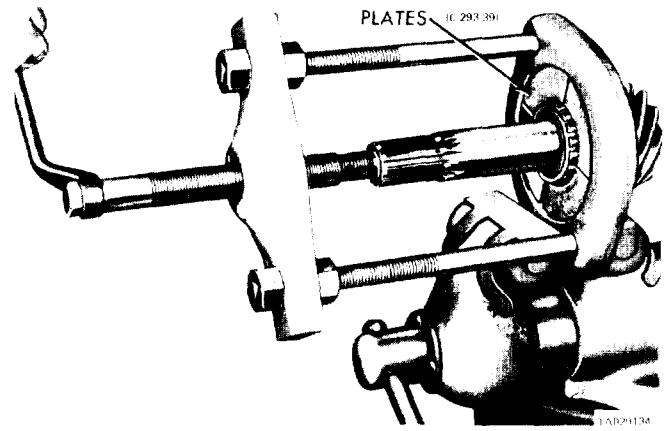

Figure 20-8. Removing Rear Bearing Cone from Pinion.
(25) Remove the bearing shims. If the drive gear and drive pinion are to be reassembled, note the position of the shims so they may be installed accordingly. Replace damaged shims with new ones of the same thickness.
(26) Place the carrier and tube assembly on an arbor press. Press out the drive pinion shaft and rear bearing cone assembly. Lift the bearing preload shim pack off the shaft assembly and record shim thickness.
(27) Lift out the oil seal gasket, the slinger, and the front bearing cone.
(28) Remove the front and rear bearing cups from the carrier using a drift. Remove the shims from in back of the rear cup and record the thickness of the shims.
(29) Using a press (tool DD-914-P), with ring DD-914-9, and C-293-39 plates, remove the rear pinion bearing cone (figure 20-8). Be sure that the bearing remover is located so as not to pull on the bearing cage.